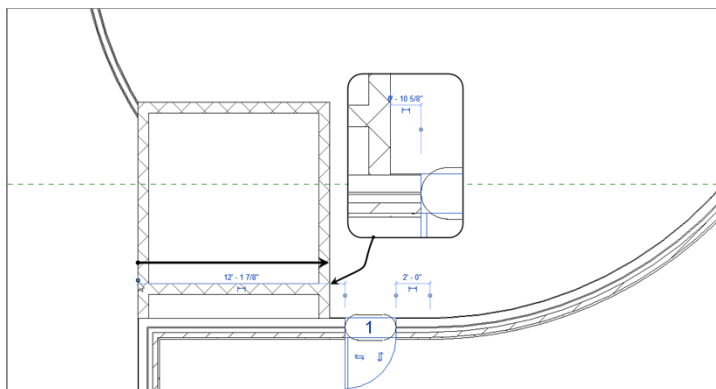

FIGURE 2.68: Moving the witness line to a more appropriate location
2. Move the left witness line of the left temporary dimension to the outside face of the CMU wall, as shown in Figure 2.68.